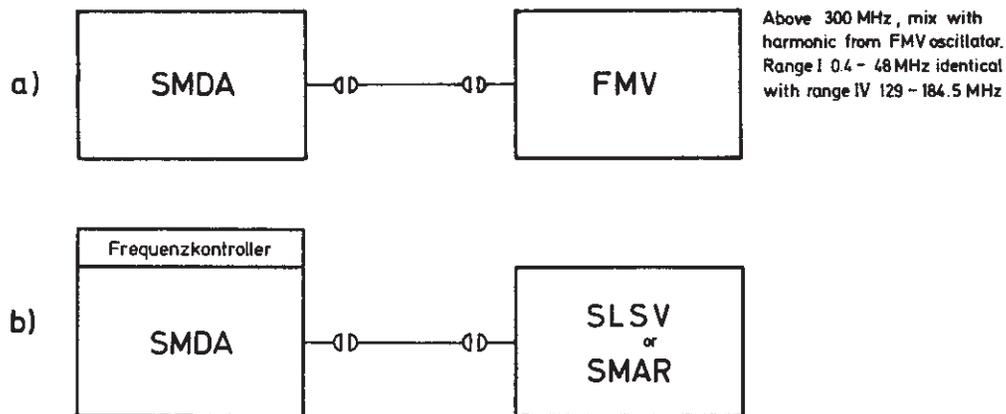

Fig. 3-15 Checking of internal FM und φM
**Measurement:** According to Fig. 3-15 a):
According to Fig. 3-15 b): Adjust the following controls:
Frequency deviation as for Fig. 3-15 a)
For the **test setup** see Fig. 3-15 section 3.2.3.5.
For checking the phase modulation proceed as for checking the frequency modulation (see sections 3.2.3.5 and 3.2.3.6) according to Fig. 3-15 at a modulation frequency of 1 kHz with  $\Delta f/f_{\text{mod}}$  corresponding to the frequency deviation. Set switch  $\varphi\text{M-FM}$  to position  $\varphi\text{M}$  and the type-of-indication selector to  $\varphi\text{M}$  [ $\Delta f/f_{\text{MOD}}$ ].